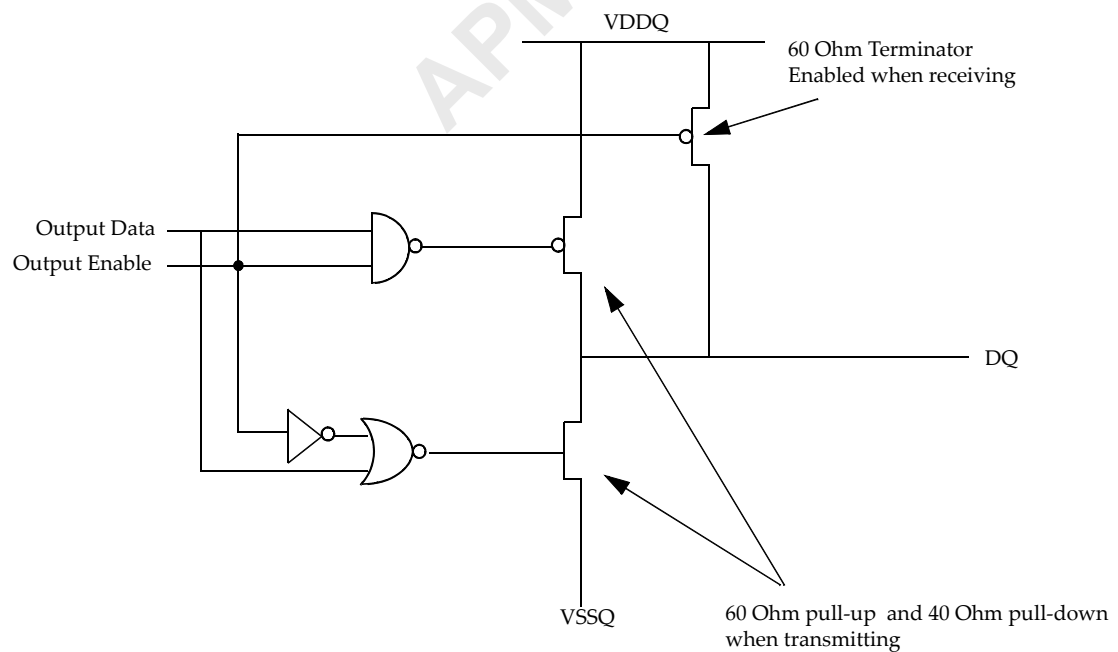

Figure 99 — Master I/O Cell
- 2.) Then calibrate the NMOS device against the calibrated 120 Ohm PMOS device as illustrate in Figure 99.